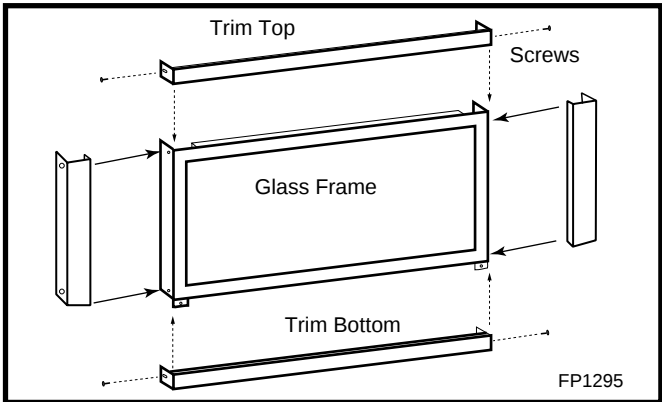

Fig. 43 Install support window trim channel and top and bottom brass trim.
- 2. Install support window trim channel, top and bottom brass trim by using the shortest black screw. (Fig. 43 & 44)